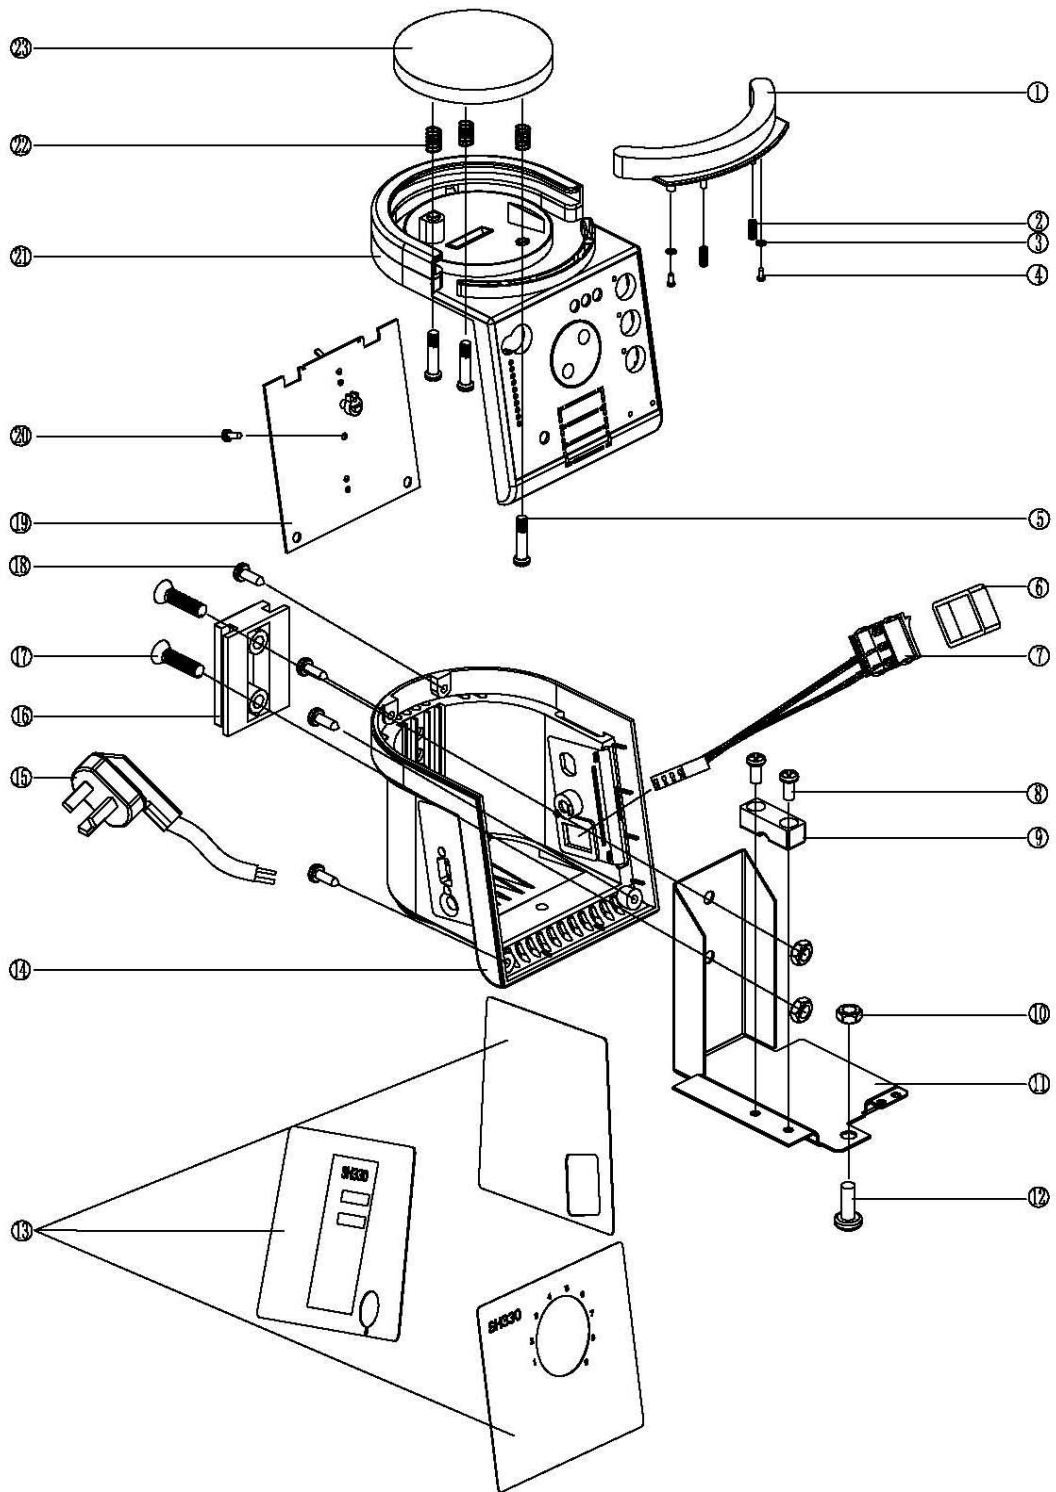

Fig. A-1 The humidifier's exploded view
- (1) Disconnect the power supply and open the shell.
- (2) Put the humidifier upside down, and find out the reset hole. Press the reset button by a screwdriver. (See the whole exploded view in Fig. A-1, A-2).
- (3) Assemble the whole shell.
- (1) Open the shell and remove the PCB.
- (2) Unscrew the three fix screws on the heater plate (See the whole exploded view in Figure A-1, A-2).
- (3) Remove the heater plate out of front part of the shell, and be careful not to lose three springs underneath the heater plate.
- (4) Replace the heater plate. The type shall accord with Table 7-3.
- (5) Install the springs and screws, and also the new heater plate.
- (6) Assemble the PCB and the shell.